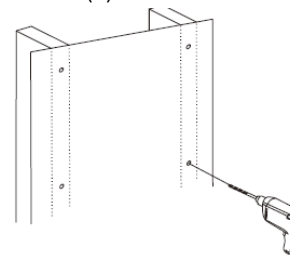

Fig 2b
Using an awl or nail, mark where the nails are located, as shown as fig.2b. Distance between two nails for fixing wall mount must not be less than 12". Pre-drill these holes with a 5mm drill bit to at least a 40mm deep hole. Please sure these holes are level and located at center. Use wall mount template to mark the location of the other three holes and drill holes. Fix the wall mount to the wall with 4 lag bolts (H) and washers (L).